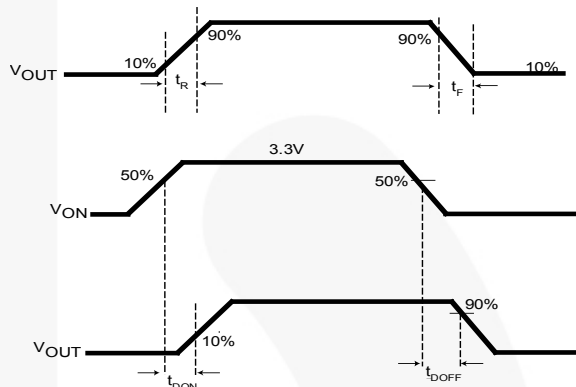

Figure 23. Timing Diagram for FPF1203/4/045
- $t_{DON}/t_{DOFF}/t_R/t_F$  are defined in Figure 23.